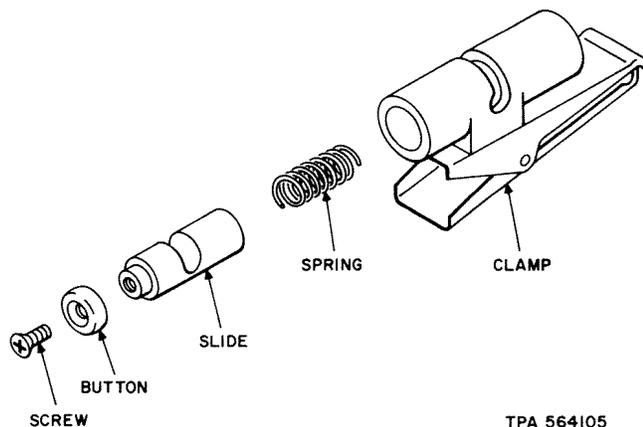

Fig. 9—Cable Clamps—Exploded View
**5.05 Cable Clamp:** The cable clamp may be slipped up and down the cord by squeezing the ends of the clamp together. To replace the cable clamp, remove the associated screw using a B screwdriver, size 1, and remove the cable clamp. Substitute the new cable clamp, and install in the reverse order of removal. (See Fig. 9.)